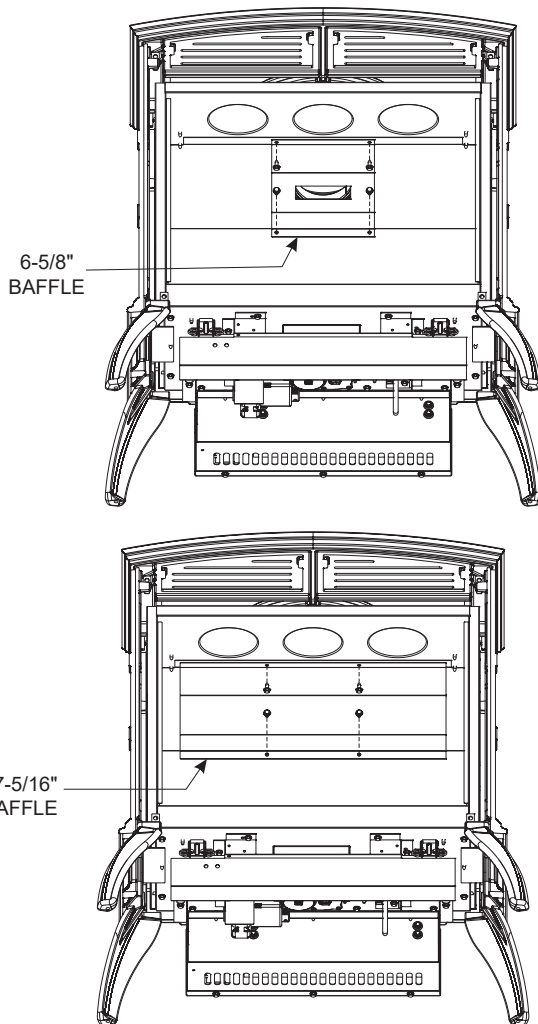

Figure 1
22. Remove flue vent baffle (6-5/8" wide). Install new flue vent baffle (17-5/16" wide). **See Figure 1.**